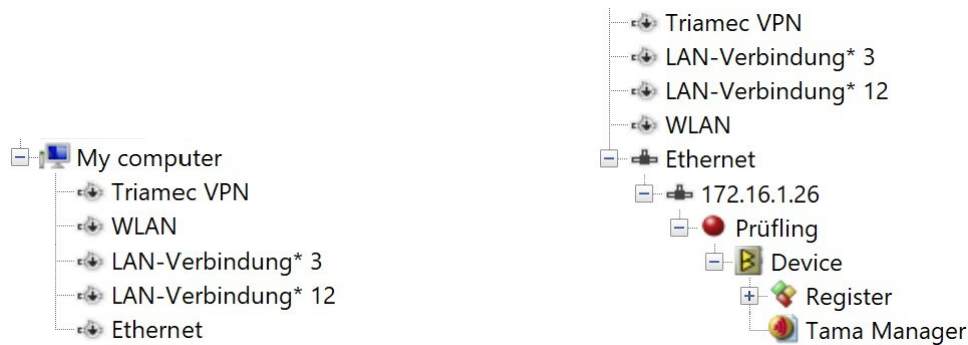

Figure 2: The appearance of Network interface cards (NICs) in the TAM System Explorer
- The Tree shows the accessible network interface cards (NICs), as in Figure 2, left-hand side. If the NICs are not visible, check **File > Preferences > Acquired adapters**.
- Now the drive(s) should be visible in the tree (Figure 2, right-hand side), if they are powered on and running for at least 10s. An *Auto-Update* feature finds drives even, if they are powered after the *TAM System Explorer* (> 7.20.0).